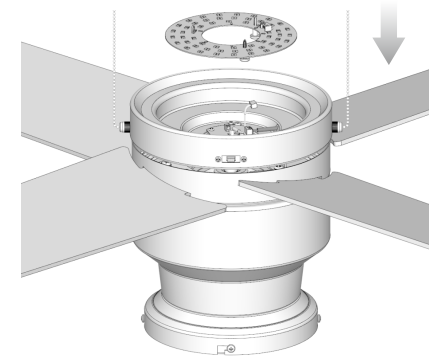

Fig. 3.2
3.4 Allow the wire plug (c) to pass through the light kit. Reinstall the light kit. The light kit will be magnetically attracted to the pan with the help of magnets, as shown in Fig. 3.2.